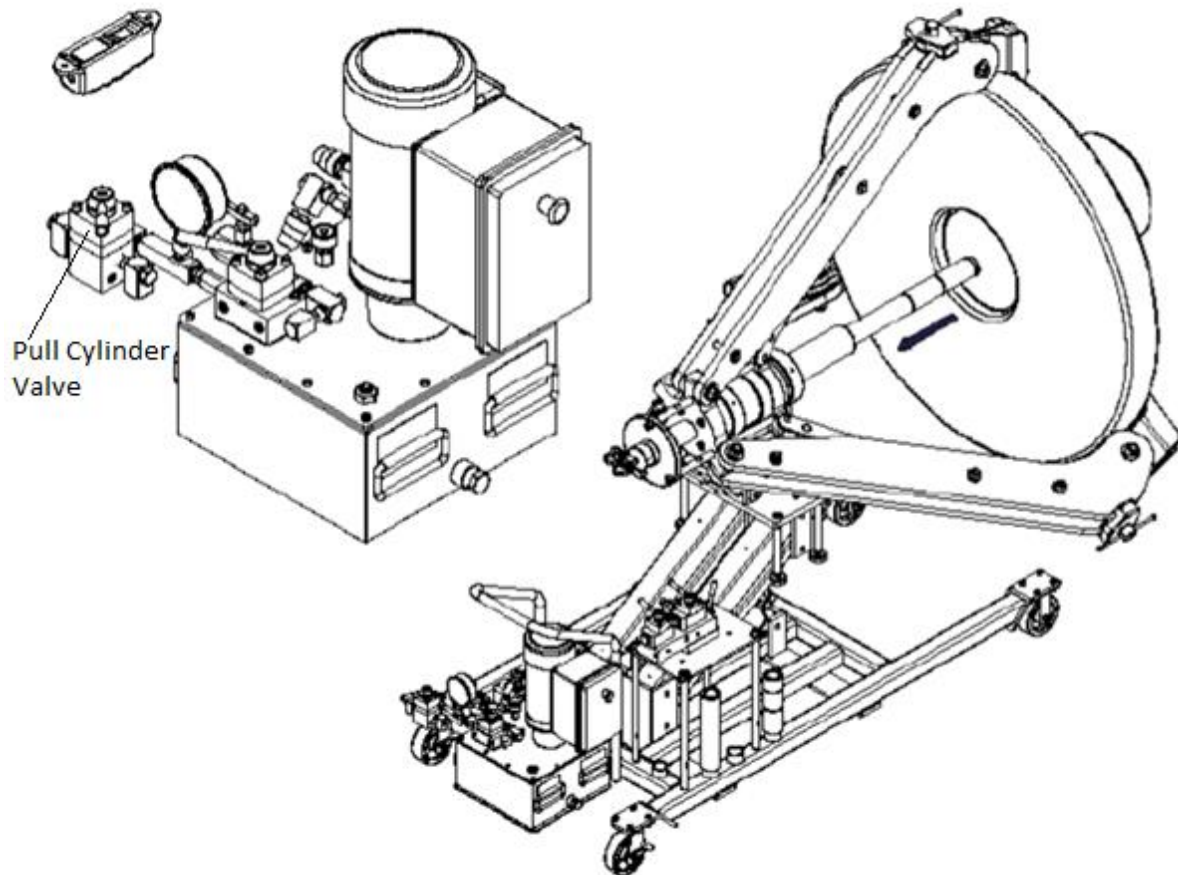

Figure 8 – Retract the Cylinder Piston
- 5.4.2 If the full stroke has been reached but the object has not been pulled completely, move the Pull Cylinder Valve to the retract position to retract the cylinder (see Figure 8). The pump does not need to be running during retraction. Another adapter may be added while maintaining the gripping action of the jaws on the object.